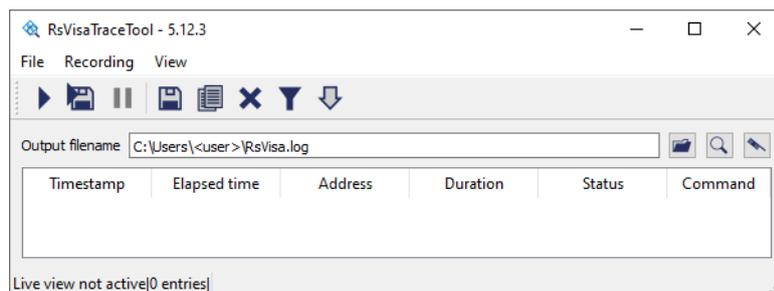

Figure 10-2: Trace tool dialog started, no entries yet
- ▶ To track VISA commands, click "Start recording" ▶ (button at top left of Figure 10-2). During a recording, the "Trace Tool" creates a log table of all VISA commands that occur upon operating other software, including R&S ELEKTRA. For example, when you start an EMI test, the recording can look as follows: